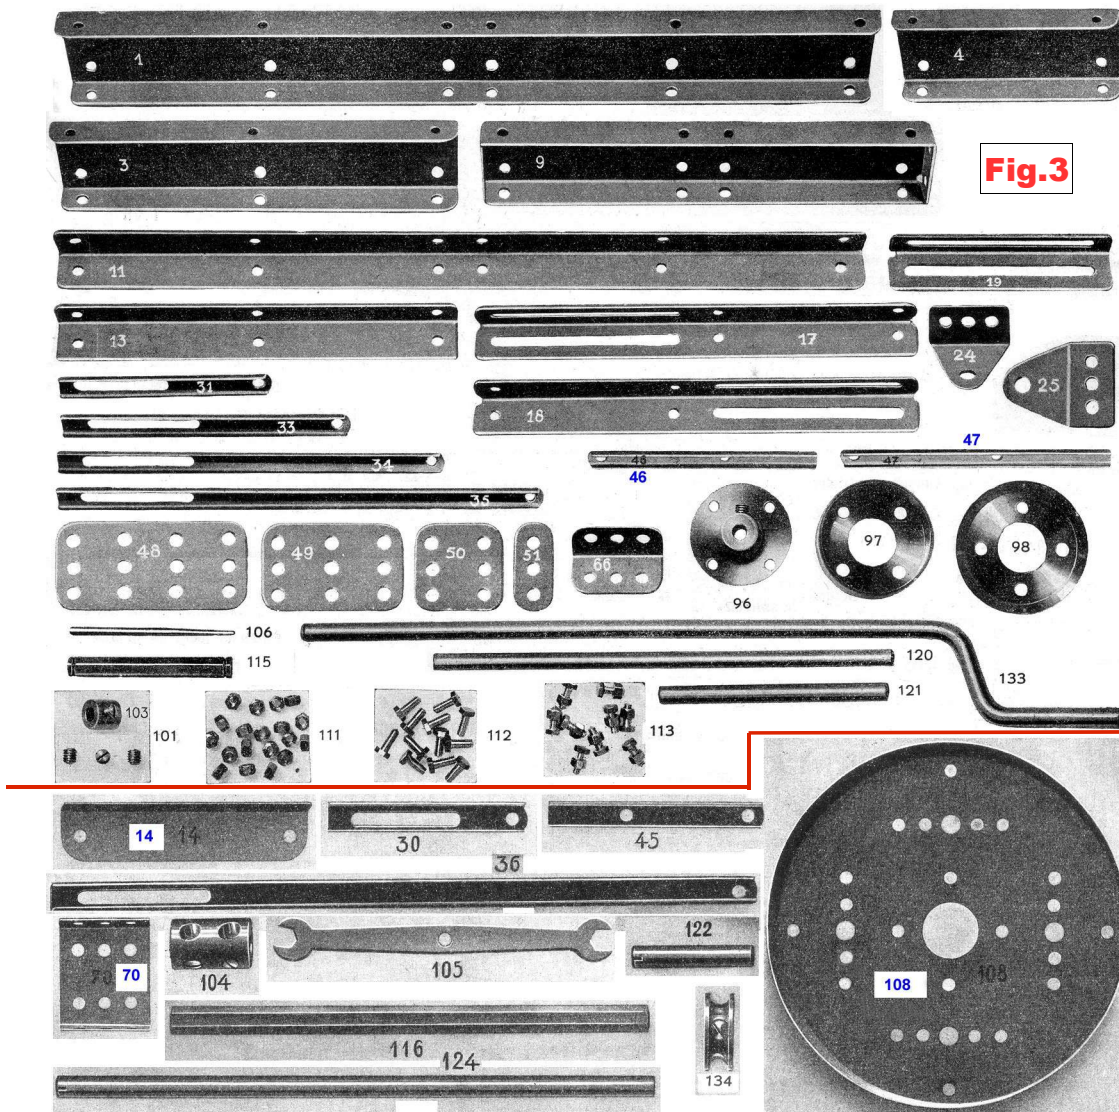

Fig.3
The parts are shown in Fig.3 (most roughly to scale but parts #96-98 in particular are much too small – #98 is actually half the diameter of #108): those above the red line are in Sets 1 & 2; those below only in Set 3. The second column in Fig.4 has the parts' main dimension, the length o/a or the diameter (but the '4' for #96,103-4 is the bore, or for #105 the jaw opening). The
- **#115,116 Box Spanners**, brass, hexagonal tube 4.8mm A/F, with the ends belled a little to accept the Nut, but not 'notched' as shown in Fig.3